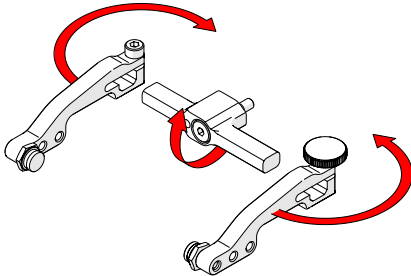

Fig. 214 - Flip yoke and reverse arms
3. Flip the yoke 180° and reverse the probe holder arms (Fig. 214).